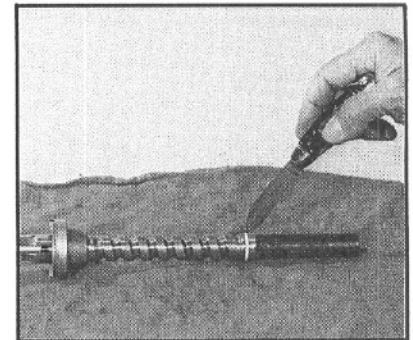

Figure 72
36. Remove and discard the teflon worm shaft seal ring (19) and O-ring (18) (FIG. 72).